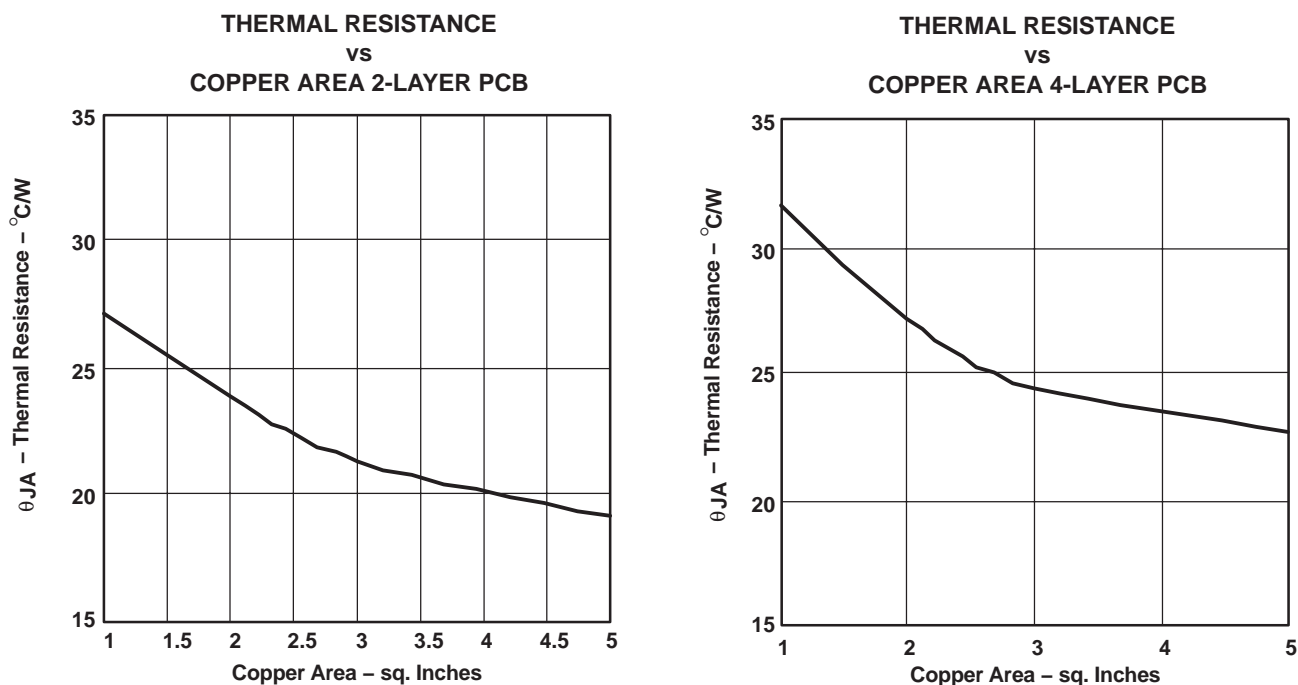
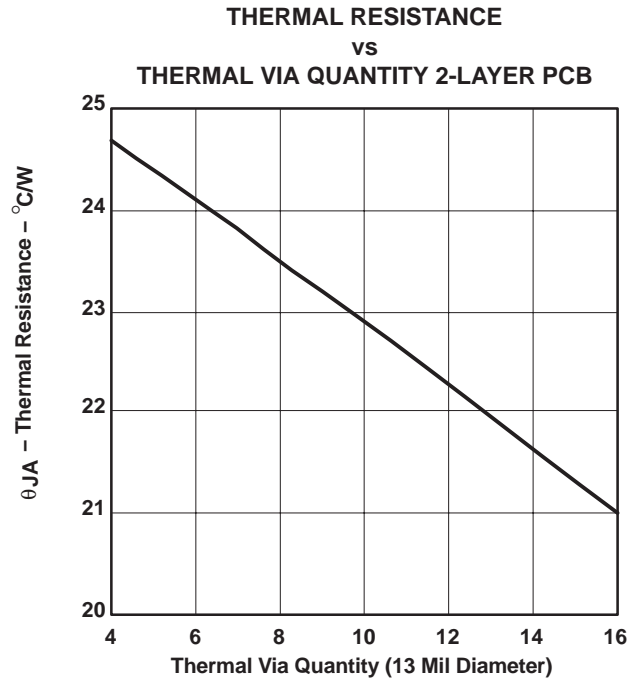

Figure 38. Thermal Resistance
Figure 39. Thermal Resistance
$$\Theta_{JA} = 19^\circ\text{C/W} \quad (2\text{-Layer PCB, } 5 \text{ sq. in. copper, see Figure 38) \quad (8)$$
Figure 38 and Figure 39 show the results of several thermal experiments conducted with the TPA3002D2. Both figures show that the best thermal performance can be achieved with more copper area for heat dissipation and an adequate number of thermal vias.
Figure 38 shows two curves for a 2-layer and 4-layer PCB. The 2-layer PCB layout was tightly controlled with a fixed amount of 2 oz. copper on the bottom layer of the PCB. The amount of copper is shown on the x-axis. Nine thermal vias of 13 mil (0,33 mm) diameter were drilled under the PowerPad and connected to the bottom layer. The top layer only consisted of traces for signal routing.
Figure 39 shows the effect of the number of thermal vias drilled under the PowerPAD on the thermal performance of the PCB. The experiment was conducted with a 2-layer PCB and 3 square inches of copper on the bottom layer. For the best thermal performance, at least 16 vias in a 4x4 pattern should be used under the PowerPAD. Refer to the TPA3002D2 EVM User's Manual (SLOU151), for an example layout with a 4x4 via pattern. PCB gerber files are available at request.